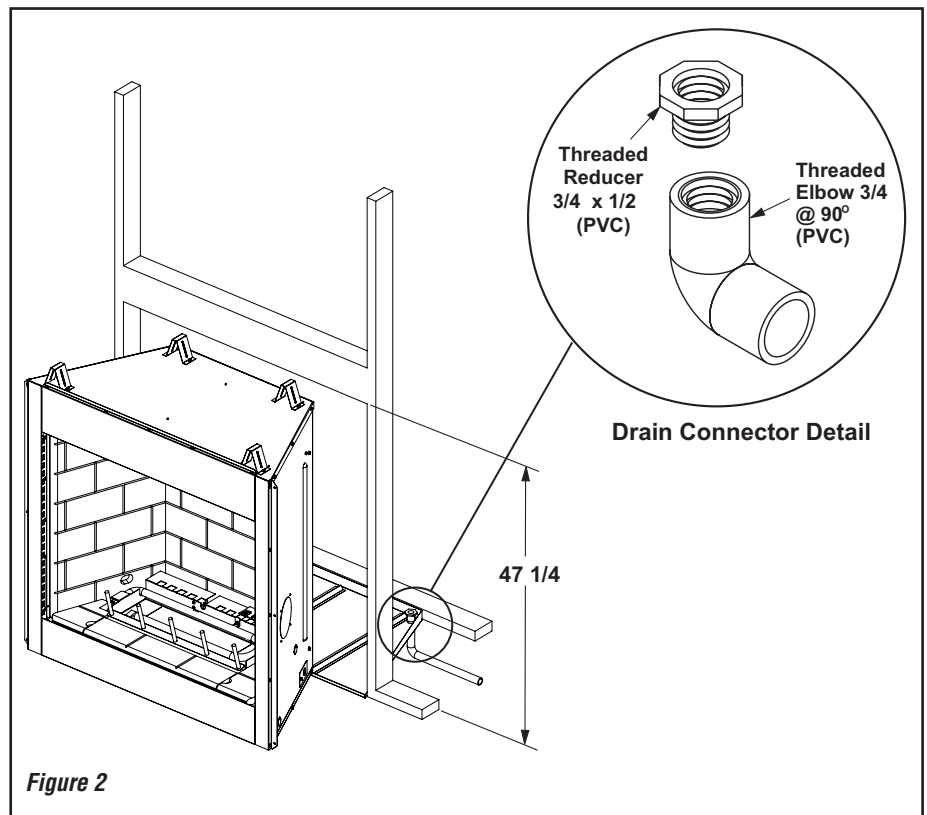

Figure 2
3. Waterproof the fireplace or install the optional drip pan (see **Waterproofing The Fireplace and Figure 2 on Page 5**).
- Step 1.** Seal all joints, gaps and corners around the bottom of the drain pan before positioning the fireplace on its location (Figure 2).